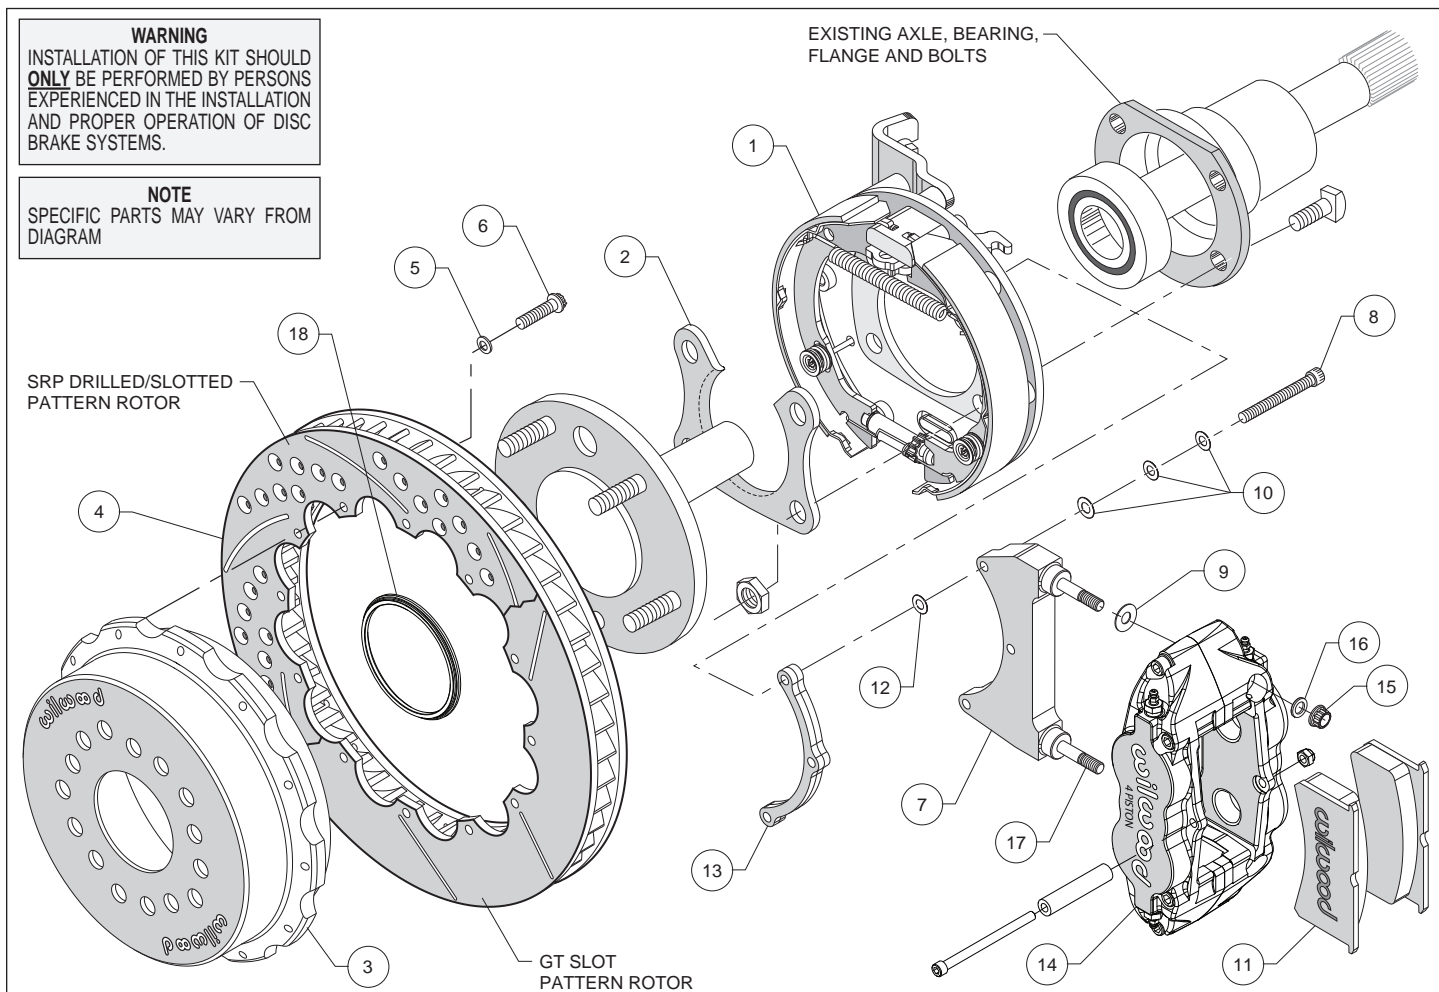
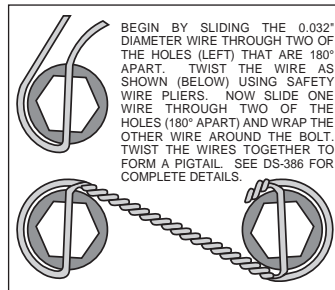

Figure 1. Typical Installation Configuration
Figure 5. Safety Wire Diagram
Assembly Instructions (numbers in parenthesis refer to the parts list and Figure 1 on the preceding pages): **CAUTION:** All mounting bolts must fully engage insert nuts. Be sure to check that all bolts are either flush or protruding through flanged side of insert nut after shimming.
- Orient the bracket assembly (1) as shown in Figure 1 and Photo 1 and slide it onto the axle. Insert the axle and bracket into the axle housing. Ensure that the bracket assembly backing plate fits flush against the axle housing flange.
- Install the bearing retainer (2) with the opening pointing upward and the lip facing inward (toward the bearing), as shown in Figures 1 and 4, and Photo 2. Secure retainer and bracket assembly to the axle housing flange using the Original Equipment Manufacturer (OEM) bolts, washers, and nuts, Figure 1. Apply red *Loctite*® 271 to the OEM bolt threads and torque to OEM specifications.
- **NOTE:** Please reference the caution statement at the beginning of the assembly instructions. The caliper mounting bracket (7) should initially be installed with clean, dry threads on the mounting bolts. Orient the bracket as shown in Figure 1 and Photo 3, and install using
bolts (8) and three flat washers (10). Initially place one .015" shim washer (12) on each bolt between the bracket (7) and spacer (13), Figure 1. Temporarily tighten the mounting bolts. **NOTE:** End of bolt should not exceed inside face of insert. The bracket must tighten squarely against the back side of the bracket kit assembly (1). Later, after the caliper alignment has been checked, the mount bolts will be secured using red *Loctite*[®].
- Orient the rotor (4) and the hat (3) as shown in Figure 1 and Photo 4. Attach rotor to hat using bolts (6) and washers (5). Using an alternating sequence, apply red *Loctite*[®] 271 to the threads, and torque to 155 **in-lbs**. For an added measure of security, the bolts may be safety wired using standard 0.032 inch diameter stainless steel safety wire as shown in Figure 5. Please refer to Wilwood's data sheet DS-386 (available at www.wilwood.com/Pdf/DataSheets/ds386.pdf) for complete safety wire installation instructions.
- Slide the rotor registration adapter (18) onto the axle register on the axle flange with the smaller O.D. facing toward the rotor/hat (3/4), Photo 5. Align the hole pattern in the hat with the stud pattern on the axle flange and slide into place, Figure 1 and Photo 6. **NOTE:** The rotor/hat must fit flush against the axle flange or excessive rotor run out may result. Install three lug nuts (finger tight) to keep the rotor/hat assembly in place while continuing with the installation. **NOTE:** Some OEM and after market axles come with stud sizes larger than 0.50" diameter. Verify stud size and have a qualified machine shop drill the bolt circle of the hat/rotor to the correct stud size, if necessary.
- Lubricate the caliper mounting studs (17) with lightweight oil. Initially place one .035" thick shim (9) on each stud as shown in Figure 1 and Photo 7. Mount the caliper (14) onto the bracket (7) using lock nuts (15) and washers (16), Figure 1. Temporarily tighten the lock nuts and view the rotor through the top opening of the caliper. The rotor should be centered in the caliper, Photo 8. If not, adjust by adding or subtracting shims (12) between the bracket (7) and the spacer (13). Always use the same amount of shims on each of the three mounting bolts. Once the caliper alignment is correct, remove the bracket mounting bolts (8) one at a time, apply red *Loctite*[®] 271 to the threads, and torque to 180 **in-lb**.